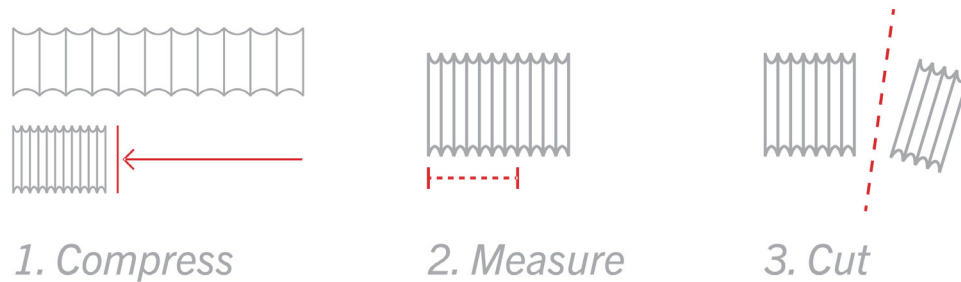

FIGURE 4
10. Cut the two 48" duct hoses into two 30" compressed sections. FIGURE 4